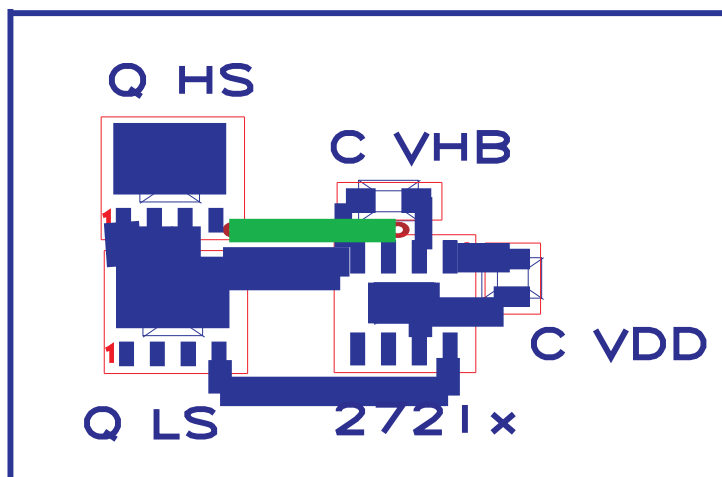

图 24. UCC27210/11 Component Placement
- Locate the V_{DD} - V_{SS} and V_{HB} - V_{HS} (bootstrap) capacitors as close as possible to the device (see Figure 24).
- Pay close attention to the GND trace. Use the thermal pad of the DDA and DRM package as GND by connecting it to the VSS pin (GND). The GND trace from the driver goes directly to the source of the MOSFET but should not be in the high current path of the MOSFET(S) drain or source current.